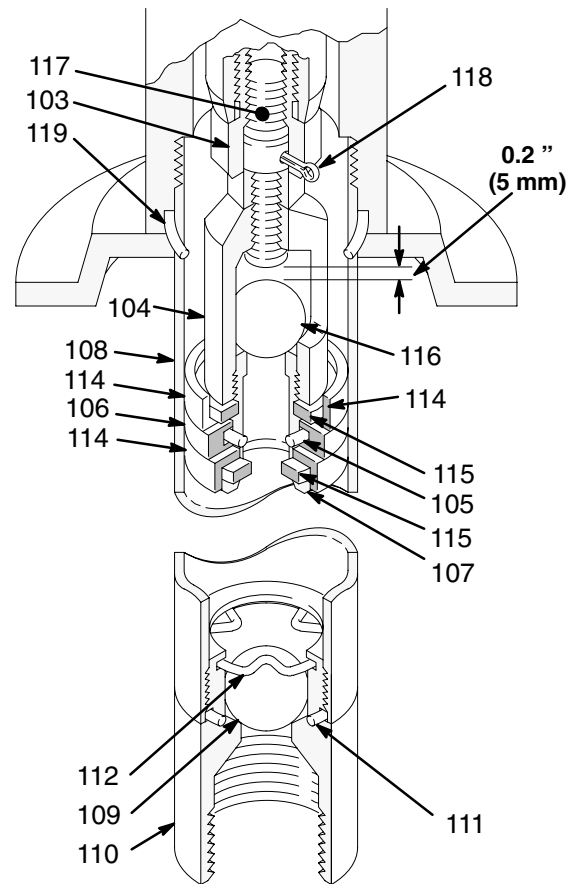

Fig. 13
Intake Valve. See Fig. 13.
Displacement Pump. See Fig. 13.
3. Carefully inspect the smooth, inner surface of the cylinder (108) for scoring or irregular surfaces. Such damage causes premature packing wear and leaking, so replace the part if needed.
4. Place the piston housing (104) in a vise. Unscrew the piston seat (107), and remove the packings.
5. Grease the new piston packings, and stack them one at a time on the piston seat (107), making sure all parts face the way shown in Fig. 13. Install the ball (116). Apply liquid sealant to the male threads of the seat (107), and screw on the piston housing (104).
6. Remove the ball retainer (112) from the intake housing assembly by grabbing the open leg and pulling it toward the center of the housing. Inspect the ball (109) and seat, and replace as needed.
NOTE: If you removed or turned the hex nut (103), check the ball travel. It should be 0.2" (5 mm), as shown in Fig. 13.
8. To reconnect the reciprocator and pump, screw the connecting rod (117) into the displacement rod (34). Install the cotter pin (118). Make sure the o-ring (119) in the bottom of the adapter (43) is in good condition. Push the cylinder up into the adapter, and engage the threads. Screw in the pump, using a strap wrench for the final tightening. See Fig. 13.